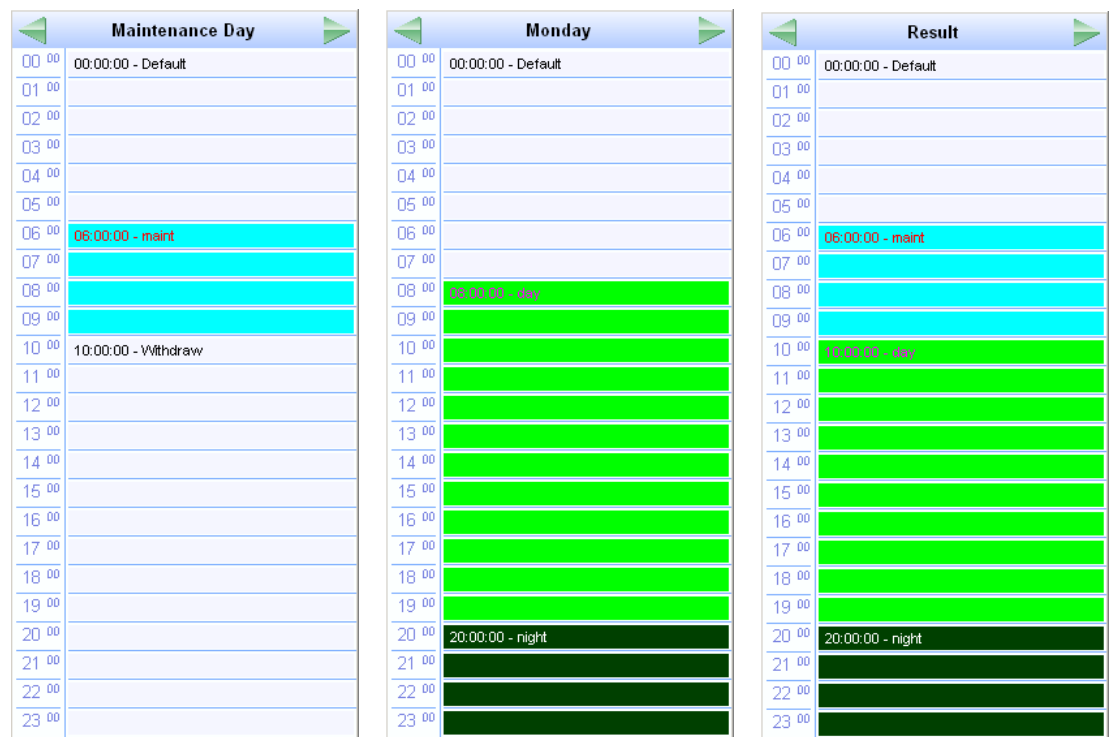

Figure 76: Example using withdraw in an exception schedule.
- **Withdraw:** If this value is scheduled, the scheduler takes the previously value preset out of effect. This means that the daily schedule with the next lower priority becomes effective. If no daily schedule with lower priority applies, the scheduler behaves as if it was disabled. Figure 76 presents an example of the *Maintenance Day* exception day, which schedules the *maint* value at 6 am and goes out of effect at 10 am. If the maintenance day falls on a Monday, the regular schedule for Monday will be overridden by the Maintenance schedule at 6 am and become effective again at 10 am sending the *day* value.